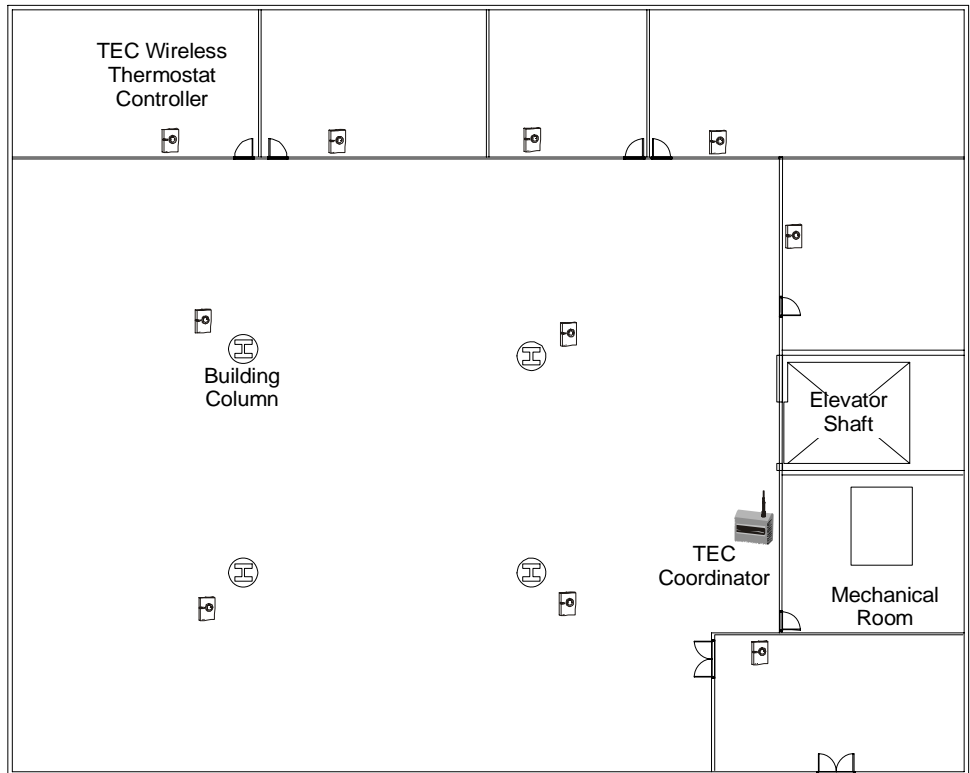

Figure 4: Building Floor Plan with TEC Wireless Thermostat Controller System
1. On the floor plan, mark the intended locations of all the TEC Wireless Thermostat Controllers. See Figure 4.
2. Identify all of the obstructions on the building floor plans; for example, elevator shafts, metal equipment, equipment rooms, concrete block walls, and duct work. See Figure 4.
3. Locate the TEC20 Coordinator near the center of the space. See Figure 4. The TEC20 Coordinator antenna should be in direct, unobstructed line of sight with a minimum of two TEC Wireless Thermostat Controllers. See Figure 4.